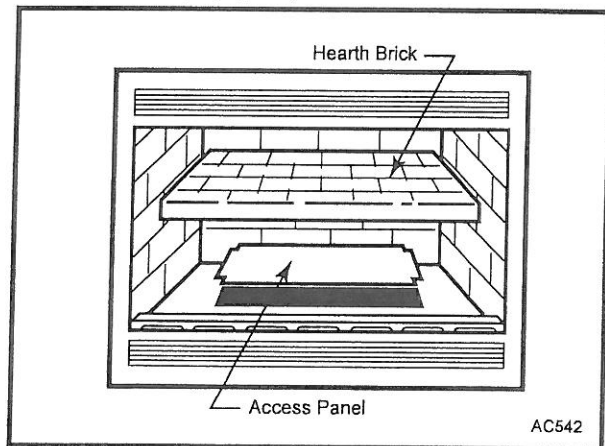

Fig. 31 Remove hearth brick and access panel.
2. Remove access panel by carefully pulling up and out from the back center edge of the panel until the tabs at each side are free. Use caution - the panel edges may be sharp. (Fig. 31)